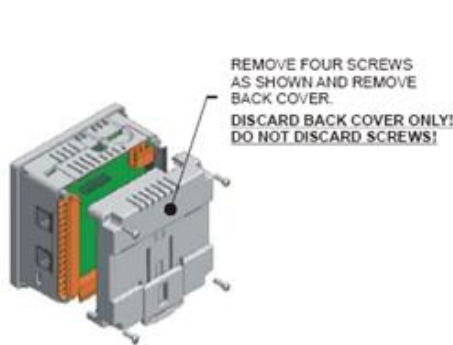

Figure 1 - Removing Back Cover of the XLE
2. Remove the four screws on the back of the XL unit and remove the back cover. The back cover will be replaced with the extended back cover that ships with the XDAC. Screws are re-used (Figure 1).